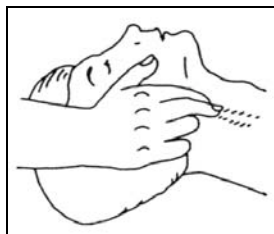
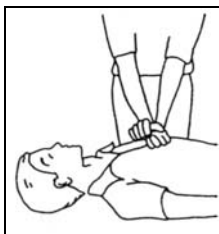
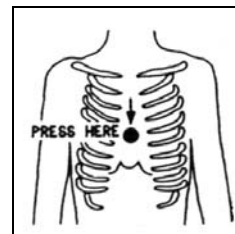

Figure 3
Figure 4
Figure 5
- Check the casualty's pulse (Figure 3); if there is no pulse, begin heart massage immediately (Figure 4), compressing the sternum near the centre of the chest (Figure 5).